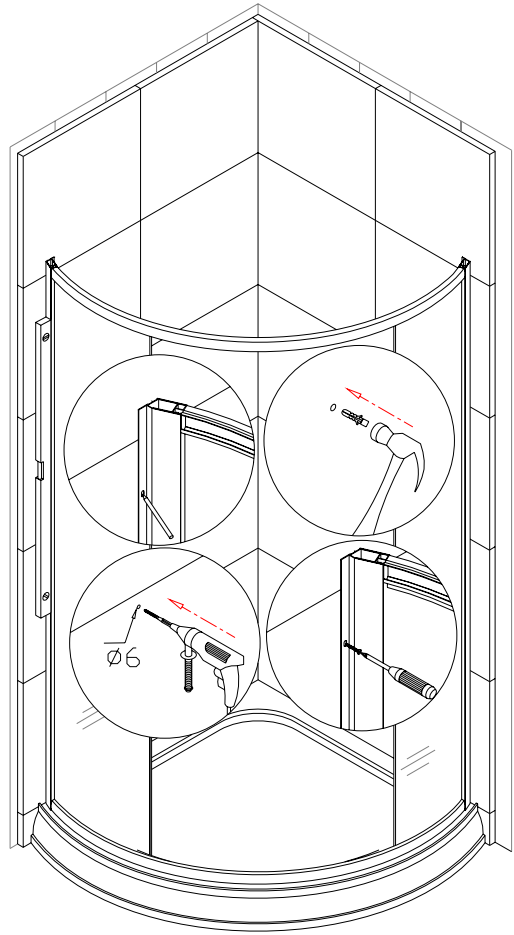

Fig 6
5. Carry the assembled unit on the top of tray; push it against wall (fig 6). You can adjust position of the shower by pulling it partially out of the Wall profile.
6. Now adjust one of Wall profiles vertically using level and mark holes on the wall. Using help to hold this profile in the right position, level another profile and mark holes. Gently move the assembled unit on the side, drill holes into the wall, insert anchors (15) (fig 6).
7. Place the whole shower assembly on the tray and attach it to the wall using ST4.2x30 screws (10).